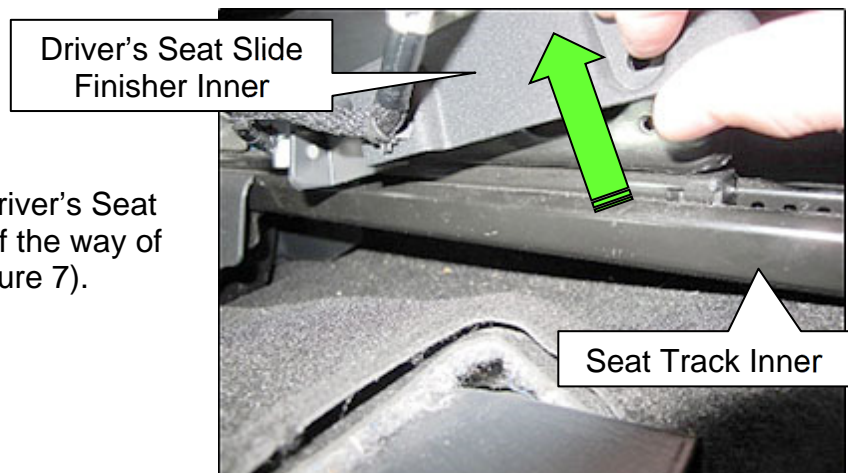

Figure 7
7. Lift up and position the Driver's Seat Slide Finisher Inner out of the way of the Seat Track Inner (Figure 7).